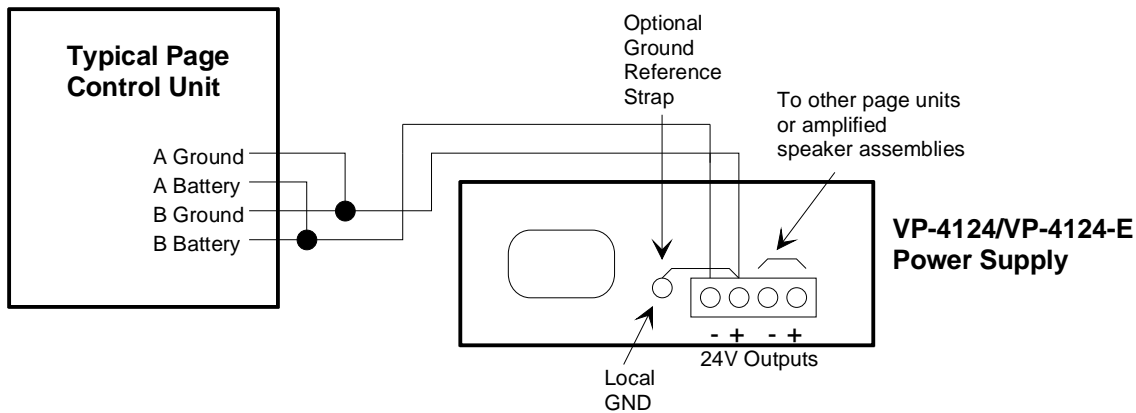

FIGURE 1
- Connections to Valcom page control units are shown in Figure 1.